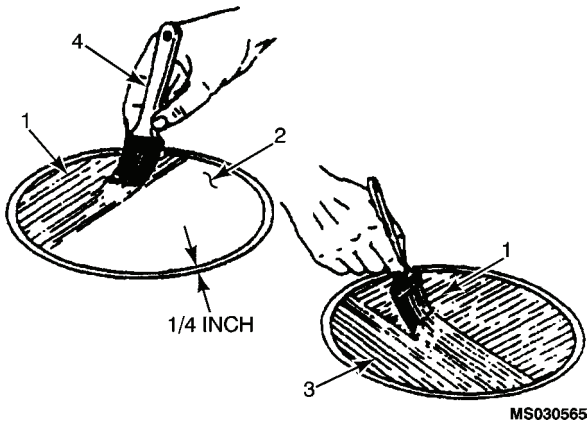

Figure 2-32. Applying Adhesive Over Previous Coat.
(h) Apply a uniform coat of barrier adhesive (item 2, table 2-11)(1, figure 2-32) in one direction over previous coat of repair adhesive (2) to within no more than 1/4 inch of repair area of O.D. Use a brush. Remove any excess adhesive from unbuffered area. Use clean cloth (item 16, table 2-11) dampened with acetone (item 3, table 2-11). Wear gloves (item 4, table 2-11). Allow barrier to dry to touch.
(j) Carefully apply a uniform coat of barrier adhesive in one direction (1, figure 2-32) over previous coat of repair adhesive mixture (2). Use a brush (4). Remove any excess adhesive from unbuffed area. Use a clean cloth (item 16, table 2-11) and acetone (item 3, table 2-11). Wear gloves (item 4, table 2-11). Allow barrier to dry to touch.